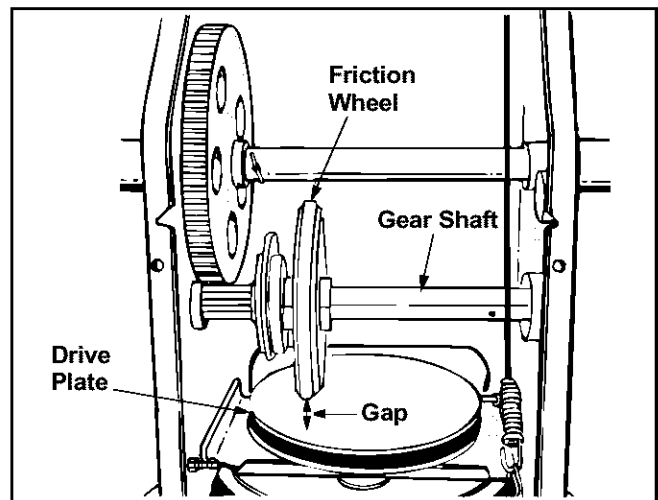

Figure 17
- When the traction control is released, there must be clearance between the friction wheel and the drive plate in all positions of the shift lever. When the traction control is engaged, the friction wheel must contact the drive plate. See Figure 17.